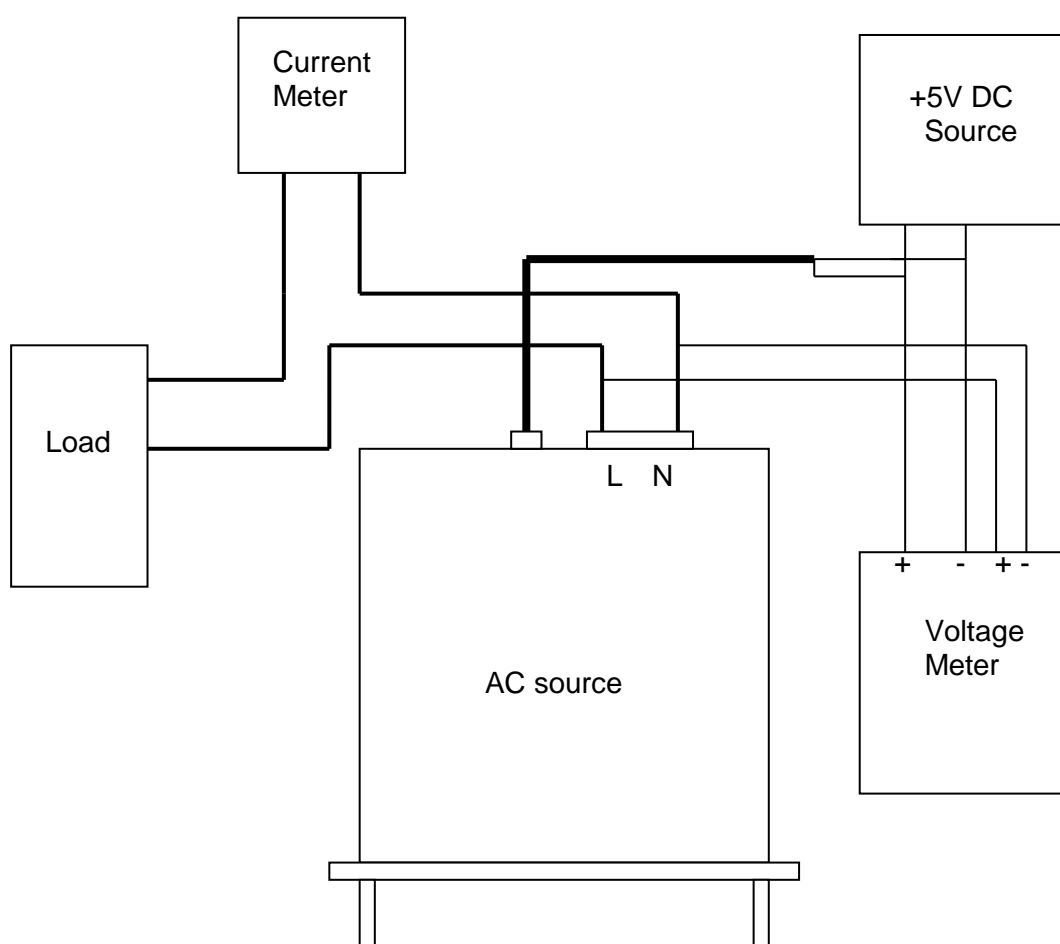

Figure 4-1
The ac source built a simple way to calibrate the output and measurement accuracy without opening cover. Users can do it just follow the procedures step by step. A voltage meter, current meter, suitable load and +5V dc source are needed for while calibration procedure. Connections for these instruments please refer to *Figure 4-1*. There are three items need to calibrate. But it is not necessary to calibrate all at once. User can just choose one item if needs.
1. The Vdc offset may be positive or negative. The positive of DVM connect to the Line of AC source output, and the negative of DVM connect to the Neutral of AC source output. See *Figure 4-1*.